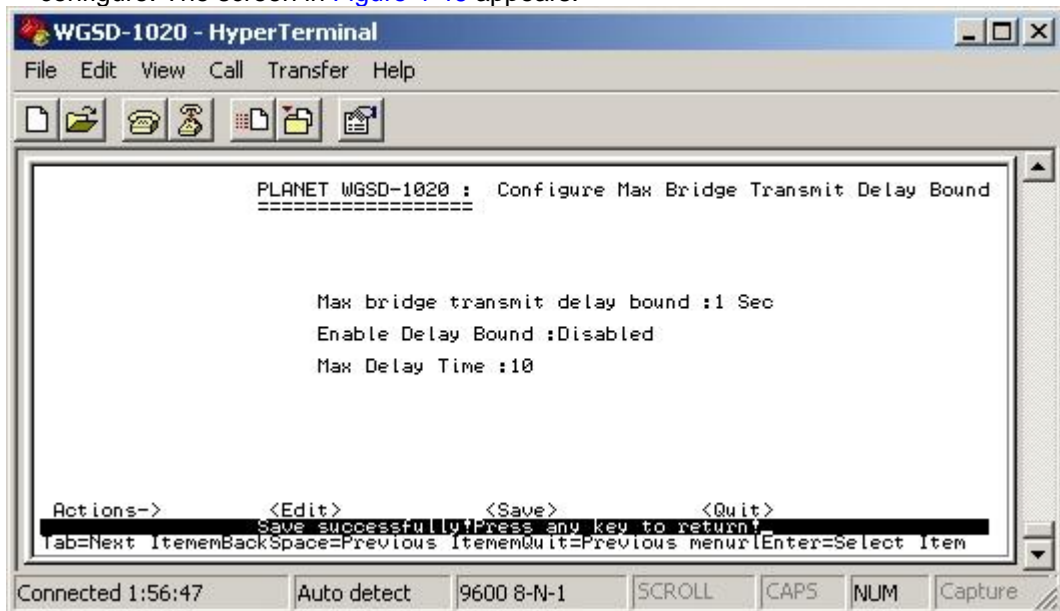

Figure 4-46 Max Delay Time save successfully screen
2. After setup completed, press” **Ctrl-A**” to “**Action menu**” and choose “**save**” to save the current configure. The screen in Figure 4-46 appears.